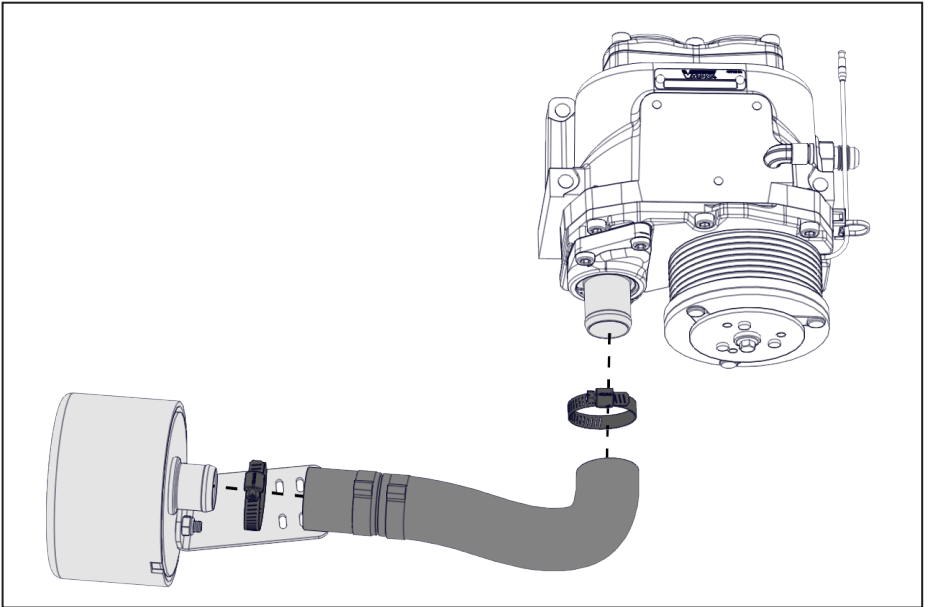

Figure 39 — Installing the compressor air filter
- Install the supplied intake tube onto the air filter assembly and the compressor inlet, and secure with the supplied hose clamps (Figure 39).